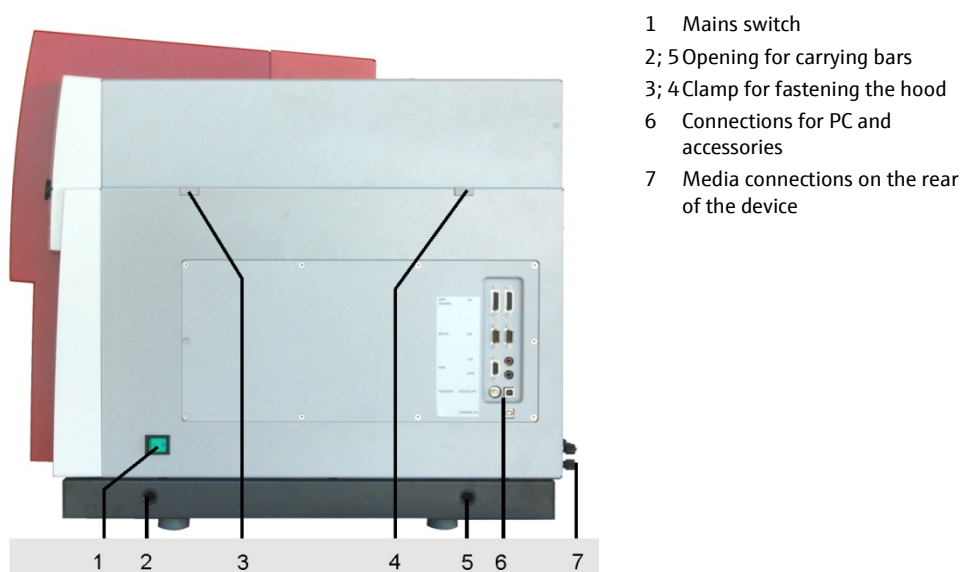

Fig. 22 Mains switch and bar for supply and control connections
1. Unscrew and remove the clamps for the device cover on the left and right side walls (3 and 4 in Fig. 22).